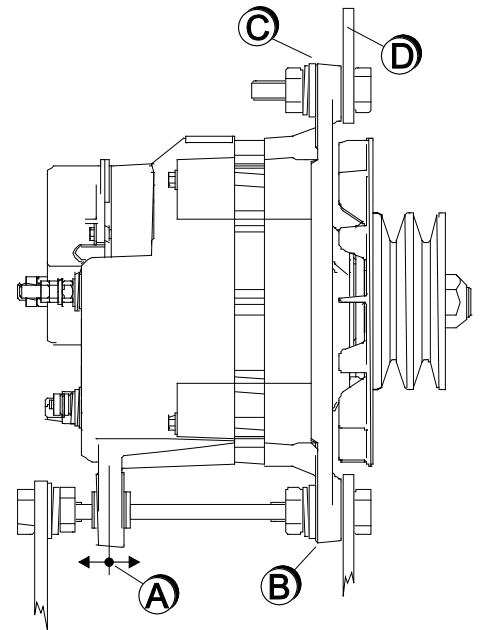

Figure 5
- 2 Loosely attach the mounting bracket to the engine with the mounting engine bolts. Position the alternator mounting foot between the two ears (Figure 5, references A and B) on the mounting bracket with the alternator mounting bolts. Note that the ear at the rear side of the alternator housing should be fixed in such way that it can freely move in the direction of the arrow (see Figure 5, reference A). This is to avoid mechanical stress due to possible high temperatures of the alternator.
- 4 Loosely attach the alternator adjustment strap (Figure 5 and 6: reference D) to the alternator adjustment ear (Figure 5, reference C) with the bolt, lock washer and flat washer.
- 5 Tighten the V-belt by applying pressure to the alternator front housing only and tighten the bolt to the adjustment ear (Figure 5, reference C). Set the belt tension per belt manufacturer's recommended specifications. If manufacturer's specifications are not readily available, set V-belt tension tight enough so that the V-belt on alternator fan pulley will not slip when attempting to rotate alternator by hand.